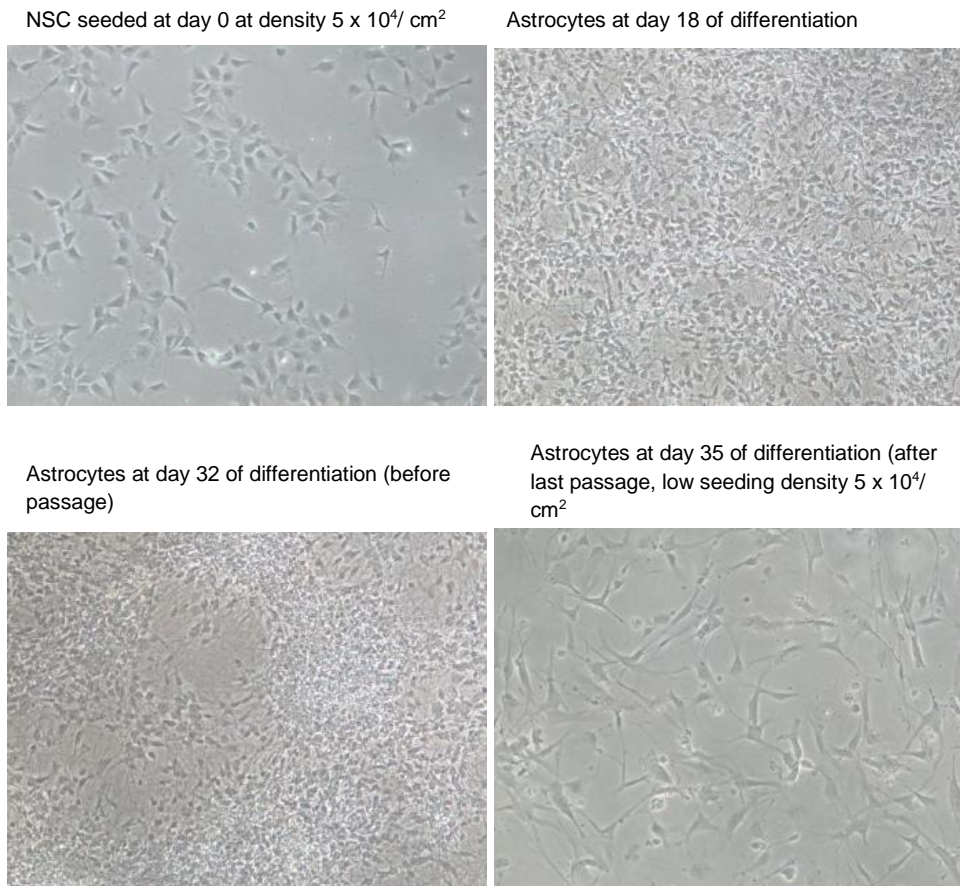

Figure 3. An example of NSC, neuronal precursors and mature astrocytes at different stages of differentiation using Astro Induction and Astro Maturation Media.
4.1 At **day 0**, aspirate Matrigel solution from cell culture vessels and immediately seed NSC at density ranging from 4×10^4 to 6×10^4 live cells /cm² in culture medium used for NSC (Figure 3).